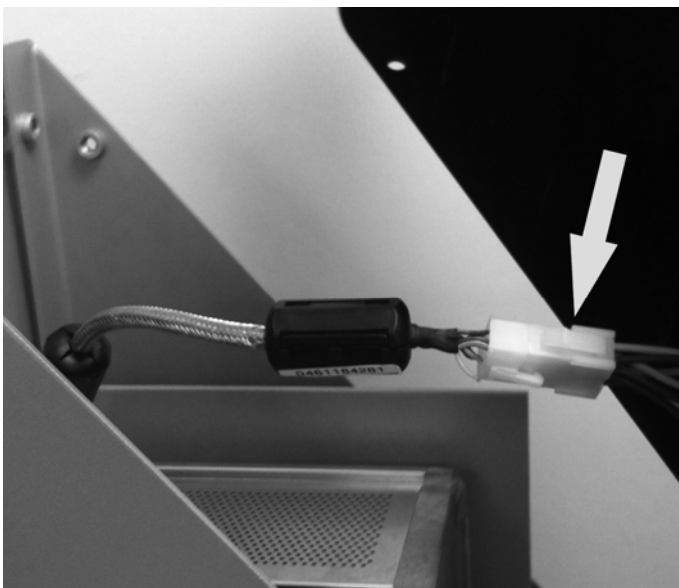

Figure 4 - LED cable harness connector
4. Remove 4 screws that attach the top cover to the charging base (use security hex bit provided). Retain screws separately for later installation. Gently lift the top cover ~6 inches. (See Figure 3) Disconnect LED cable harness connector from charging base harness by pressing release tab and pulling gently apart. (See Figure 4)